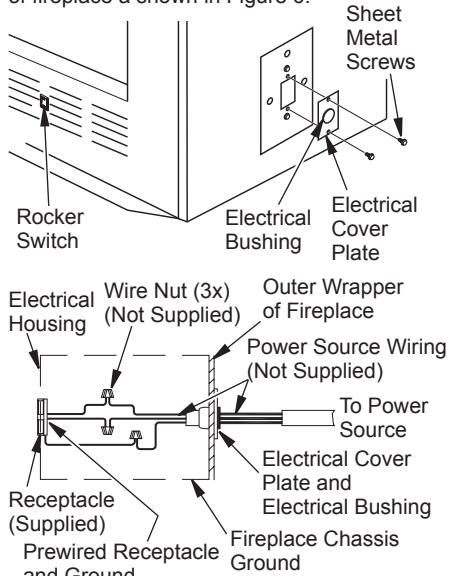

Figure 6 - Fan Switch-Electrical Bushing
Fan or blower kit is optional with this fireplace (for circulating models only). Use of blowers or fans other than those manufactured by FMI PRODUCTS, LLC voids warranty. Fan is operated by pressing rocker switch (see Figure 6) in lower right hand corner of fireplace face. Blower is operated by turning control knob (not shown).
Fan/blower kit electrical connections are made through electrical cover plate on side of fireplace as shown in Figure 6.
1. Remove electrical cover plate with bushing from fireplace by removing 2 sheet metal screws as shown in Figure 6.
3. Slide all wiring connections in electrical housing as shown in Figure 6.